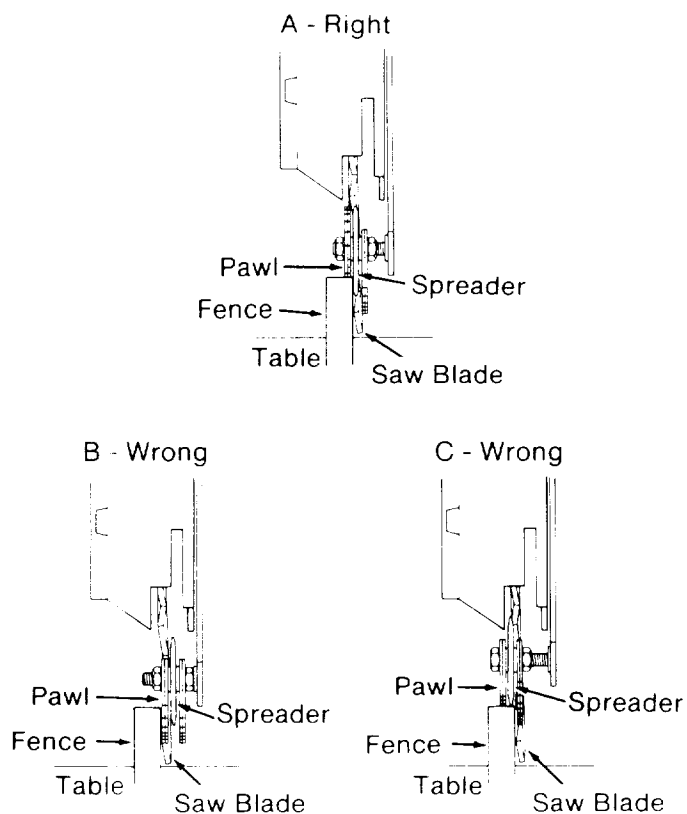

Fig. 87
12. If the *spreader* and *blade* both rest against the *fence*, no adjustment is needed. (Figure 87-A) Go to step 17, or
If the *spreader* is in front of the *fence* but not touching it (Figure 87-B), go to step 13, or
If the *spreader* hits the top of the *fence* (Figure 87-C), go to step 13.